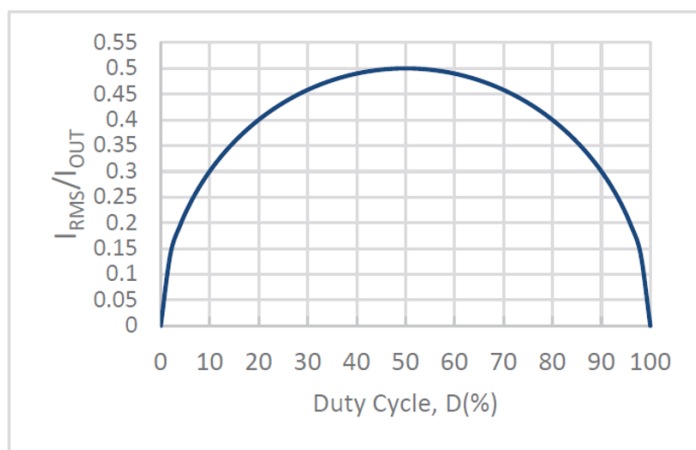

Figure 10: Normalized Input Capacitor Ripple versus Duty Cycle
Figure 10 shows the normalized input capacitor RMS current versus duty cycle. To use this graph, simply find the operational duty cycle (D) on the x-axis and determine the input/output current multiplier on the y-axis. For example, at a 20% duty cycle, the input/output current multiplier is 0.40. Therefore, if the regulator is delivering 1.0 A of steady-state load current, the input capacitor(s) must support 0.40×1.0 A or 0.4 A RMS.